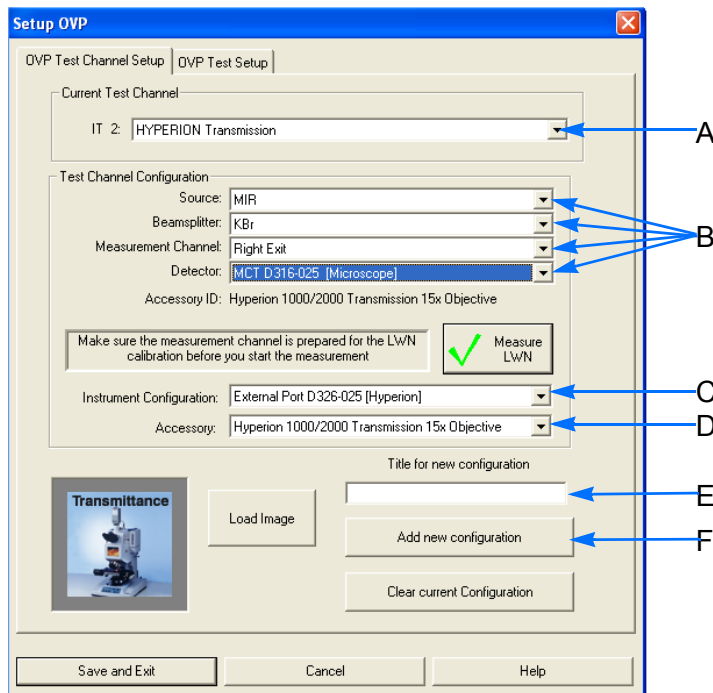
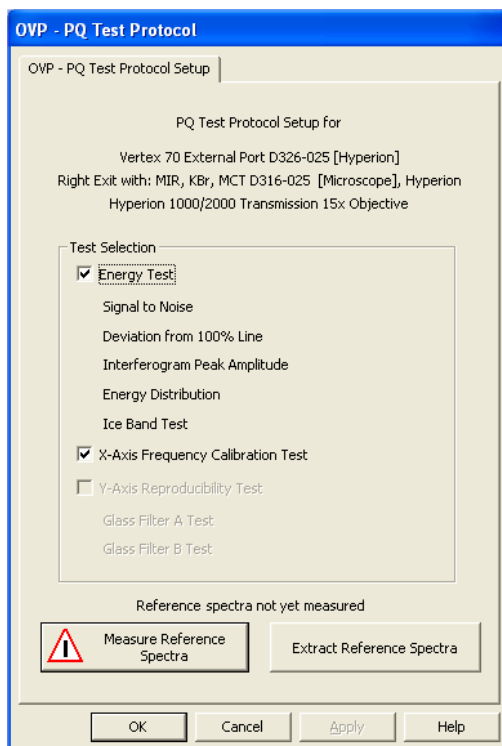

Figure 5: Setup OVP
Figure 10: Setting up the PQ Test Protocol
In case you set up OVP for the first time, enter a descriptive title for the current configuration (e.g. HYPERION transmission) into the entry field *Title for new configuration* (E in figure 5) and click on the *Add new configuration* button (F in figure 5). Moreover, you have to specify the installed source, beamsplitter installed in the spectrometer, the measurement channel (i.e. whether the microscope is coupled to the left or right exit port of the spectrometer) and the detector installed in the microscope (B in figure 5). Then, select the correct option for the instrument configuration (C in figure 5) and the accessory in question (D in figure 5).
In case you have already set up one or more test channel configurations, you can select the test channel in question from the *Current Test Channel* drop-down list (A in figure 5). In this case, the correct options for *Source*, *Beamsplitter* etc. (B in figure 5) are selected automatically and you need not repeat the measurement of the LWN and the reference spectra.
In case you perform an OVP setup for the first time or you have replaced the laser or another optical component you need to measure the laser wavenumber (LWN) by clicking in the *Measure LWN* button. See figure 5. Otherwise, you can leave out this step and proceed with the following section *Setting up the PQ Test Protocol*.
A warning symbol on the *Measure Reference Spectra* button indicates that reference spectra need to be measured. See figure 10. The cases, in which new reference spectra need to be measured, are listed in the following section.
The necessity for a reference spectra measurement is indicated by a warning symbol on the *Measure Reference Spectra* button. (See figure 10.) Otherwise, you can leave out this step, click in the *Setup OVP* window on the *Save and Exit* button (see figure 5) and proceed with the section *Running the PQ Test*.
- Then, click in the *Setup OVP* window (figure 5) on the *Save and Exit* button.